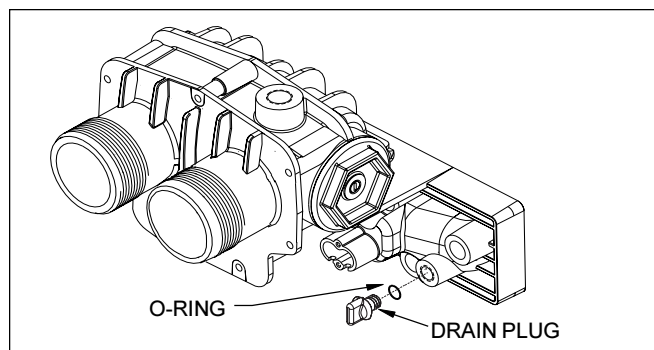

FIGURE 23. Draining the Heater
3. Completely drain the heater before the first frost. To drain the heater, remove the drain plug from the right side of the inlet/outlet header (see Figure 23).